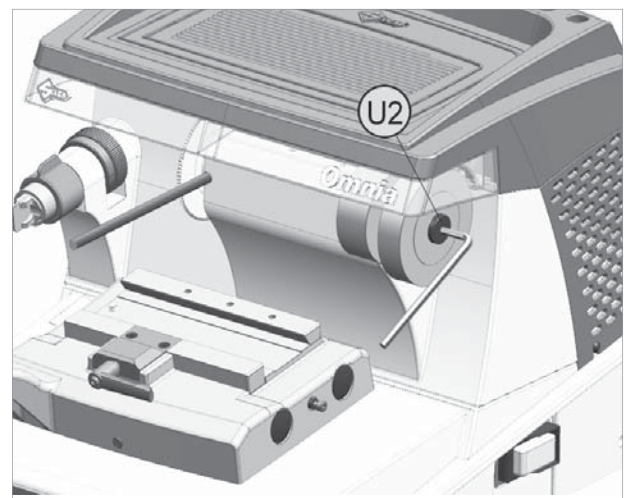

Fig. 59
- 3) Use the Allen key to loosen the screw (U2) and remove the brush (Fig. 59).